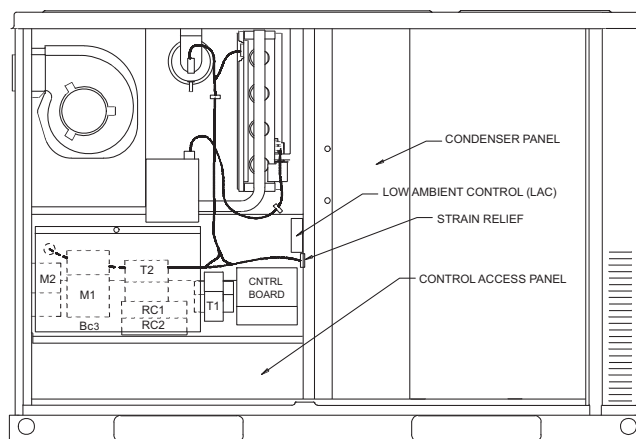

FIGURE 1 - FRONT VIEW OF UNIT
3. Use the #2 phillips head screw driver and the 4 screws provided with the low ambient control and attach the control in the control compartment to the right hand side partition in the holes provided. See Figure 1.